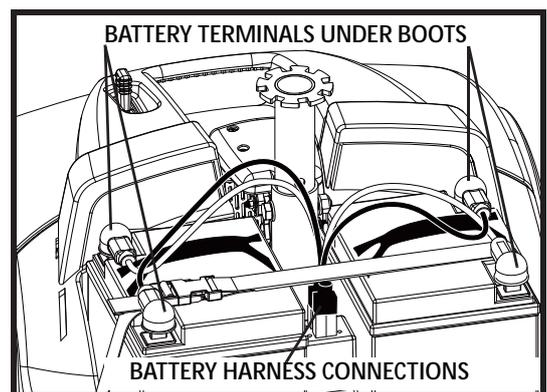

Figure 10. Battery Removal/ Installation
3. Disconnect the battery harnesses by pulling them straight up. **See figure 10.**